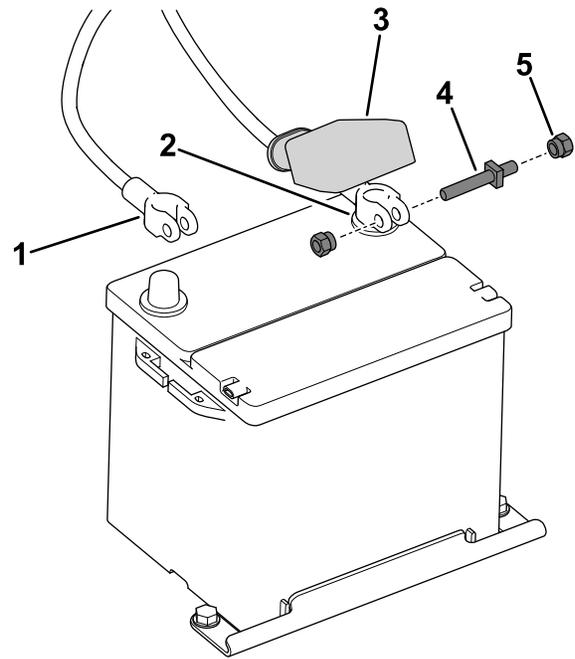

Figure 42
1. Disconnect the battery cables (Figure 42).
2. Connect the battery cables (Figure 42).